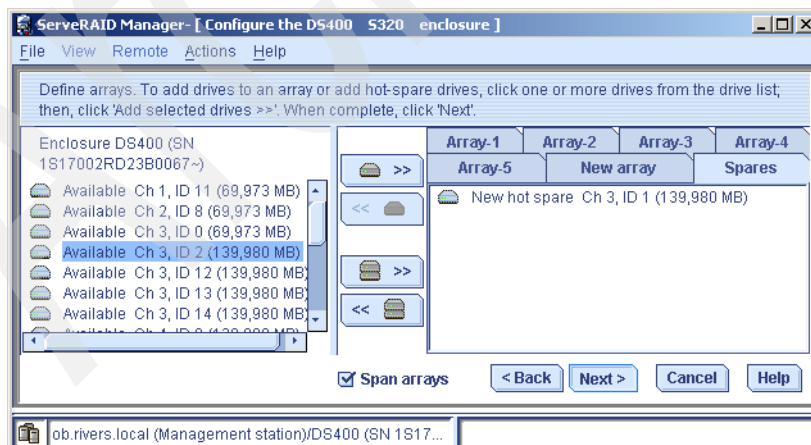

Figure 4-97 Checked Span arrays
- Click the **Span arrays** check box shown in Figure 4-97 to create spanned arrays. Without checking this checkbox, spanned arrays cannot be created. Click **Next**.